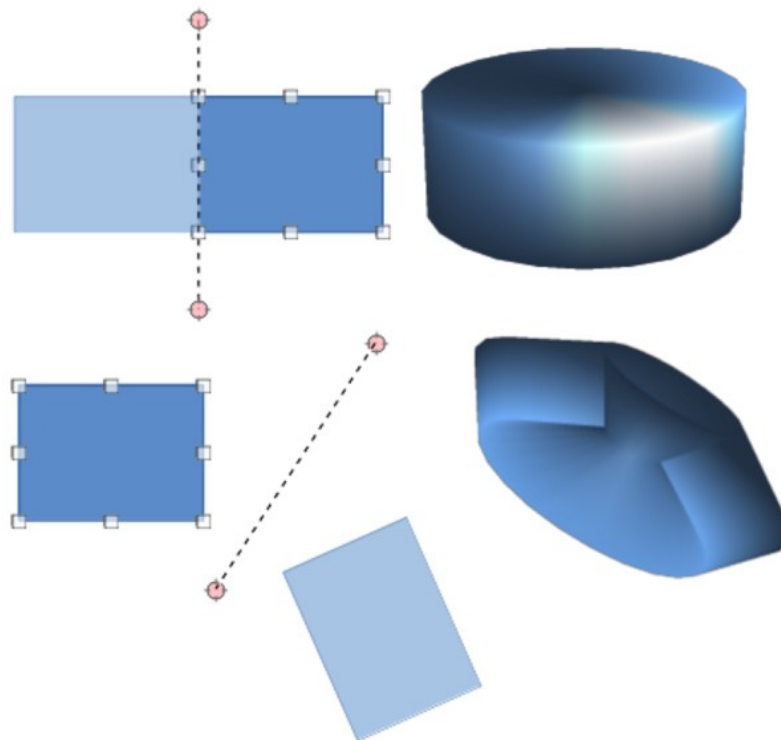

Figure 7: Example of moving rotation axis using In 3D Rotation Object
**In 3D Rotation Object** converts a 2D object into a 3D scene by rotating the object through a movable axis of rotation. An example of moving the rotation axis and changing the rotation angle is shown in Figure 7. The actual 3D scene created also depends on the angle and shape of the object being rotated.
- 4) Click anywhere outside the 2D object and it is converted into a 3D scene, as shown in Figure 7.